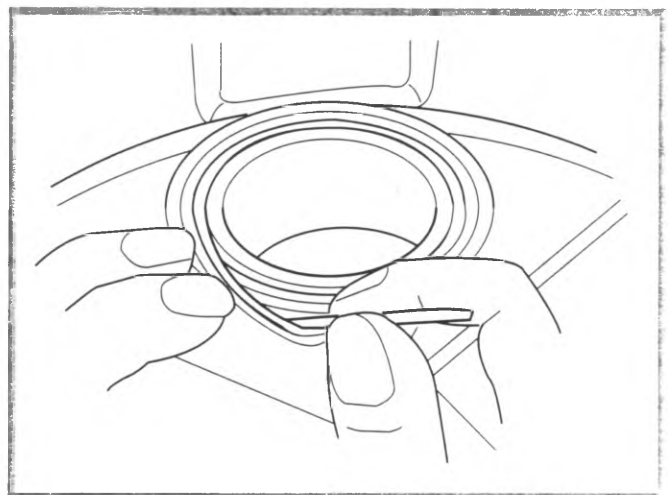

Figure 6-12, Lift Inner Edge of Boot
3. After bottoming the piston, use a small plastic or wood tool to lift the inner edge of the boot next to the piston, and press out any trapped air (figure 6-12).